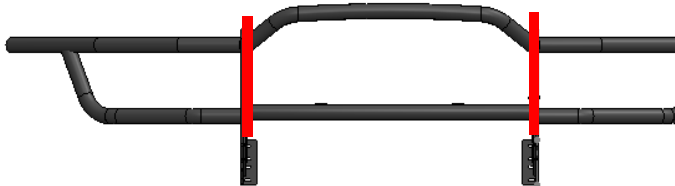

Figure 1: Light Bar Assembled
1. Assemble your Light Bar from the three (3) individual sections and the two (2) mounting blades using the black 5/16"-18 hardware provided (reference Figure 1 & below Figure 2).